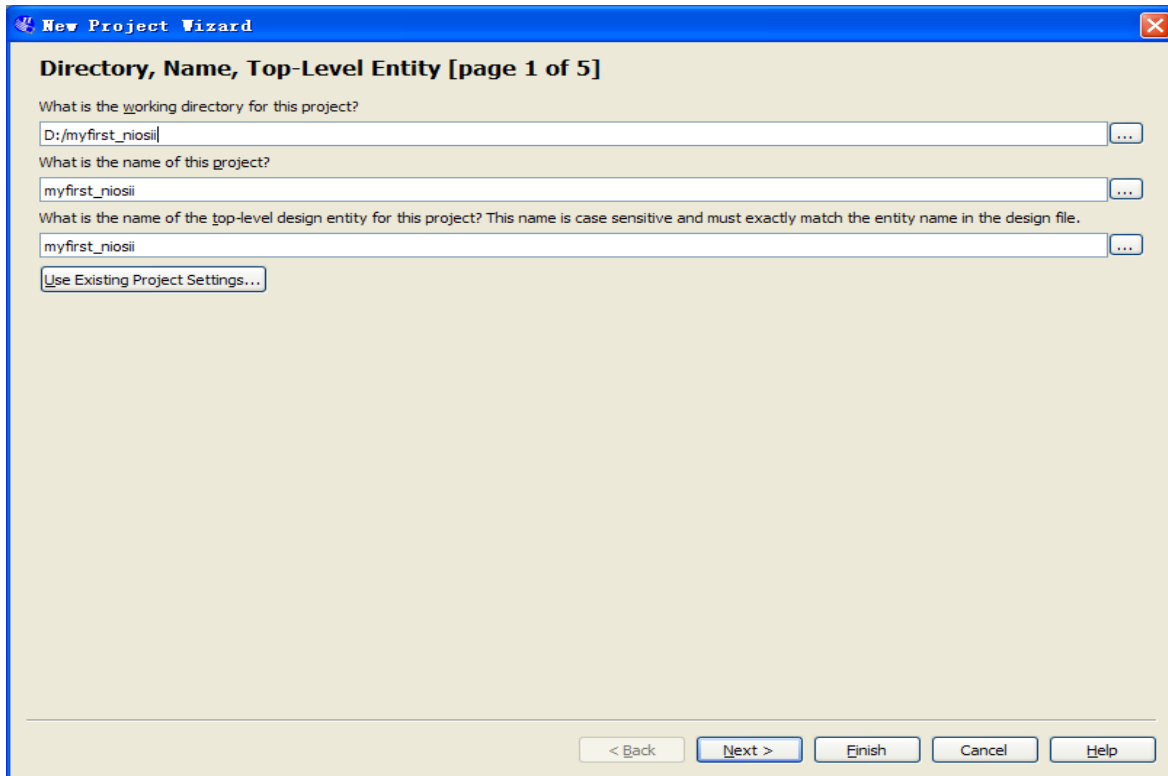
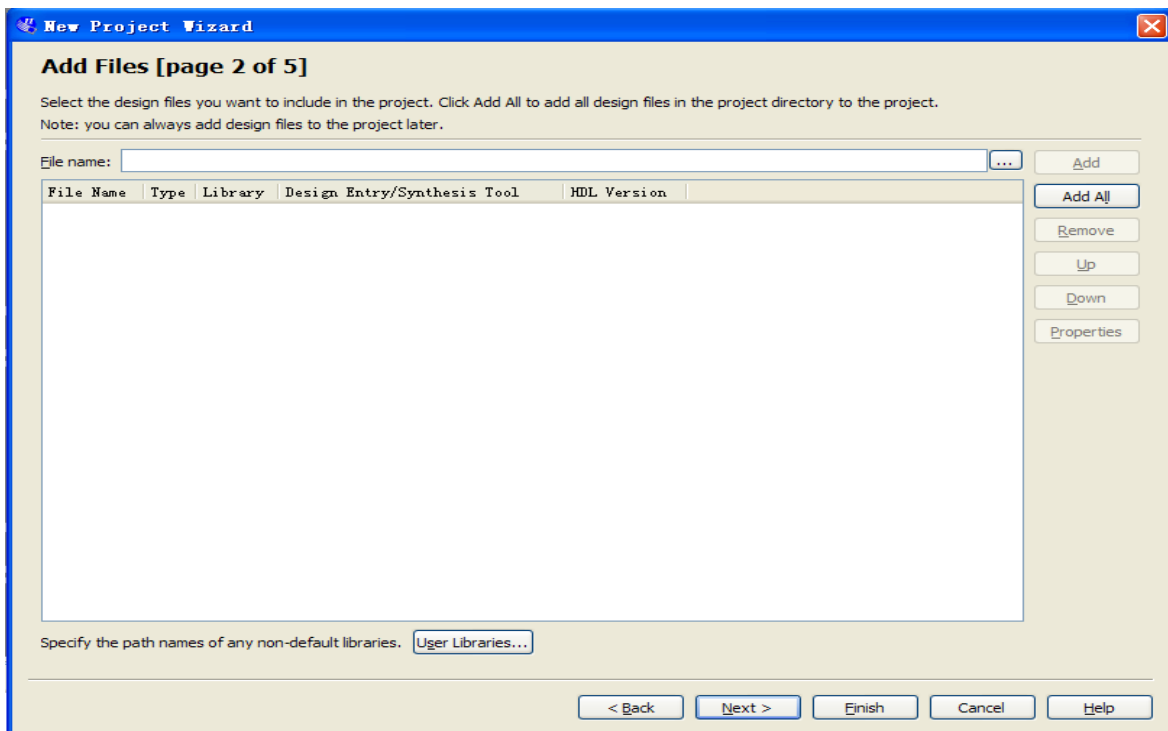

Figure 7-3 Input the working directory, the name of project, top-level design entity
Figure 7-4 New Project Wizard: Add Files [page 2 of 5]
2. Select a working directory for this project, type project name and top-level entity name as shown in Figure 7-3. Then click Next, you will see a window as shown in Figure 7-4.